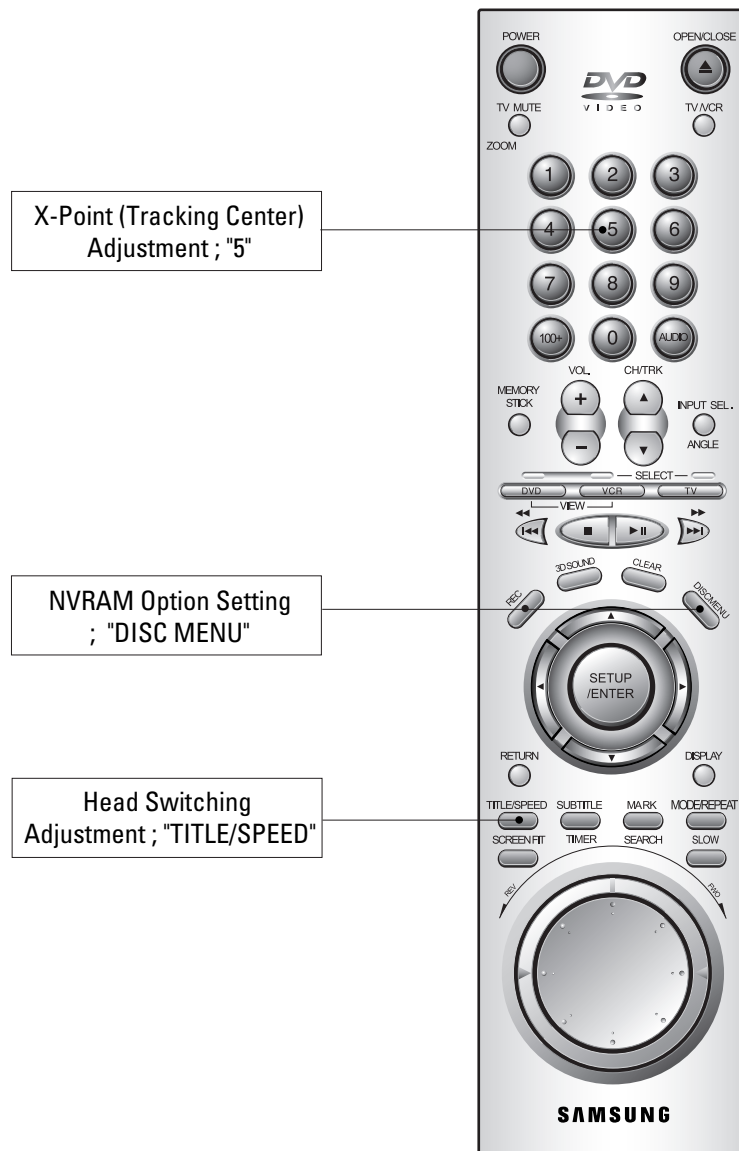

Fig. 4-1
- 3) Press the "5" button of remote control then adjustment is operated automatically. (See Fig. 4-1)
- 3) Press the "TITLE/SPEED" button of remote control then adjustment is operated automatically. (See Fig. 4-1)